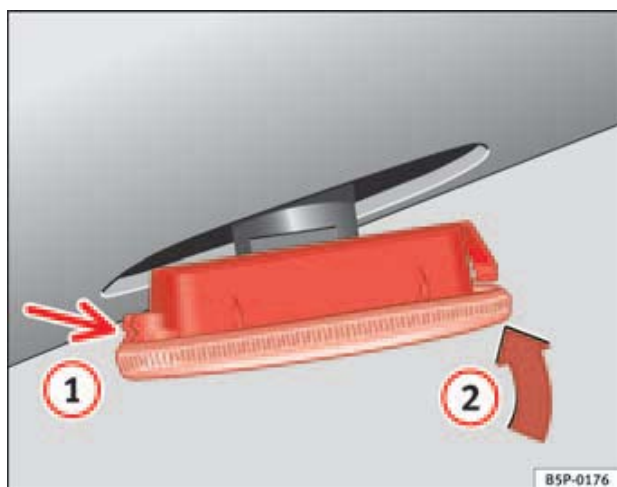

Fig. 173 Indicator
- First place the indicator in the opening in the bodywork, fixing the tabs ⇒ fig. 173, arrow ①.
- Insert the lamp as shown by the arrow ② ⇒ fig. 173. ■